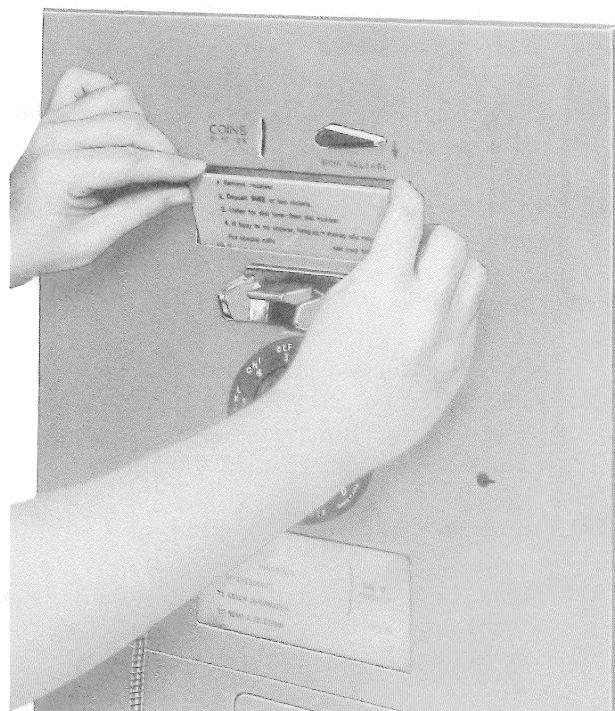

Fig. 25—Installing Instruction Card in 2-Type Set With P-23F041 Card Spring
- (1) Push down with fingers (Fig. 25).
- (2) Snap card in place.
- (3) Ensure that card is seated properly.